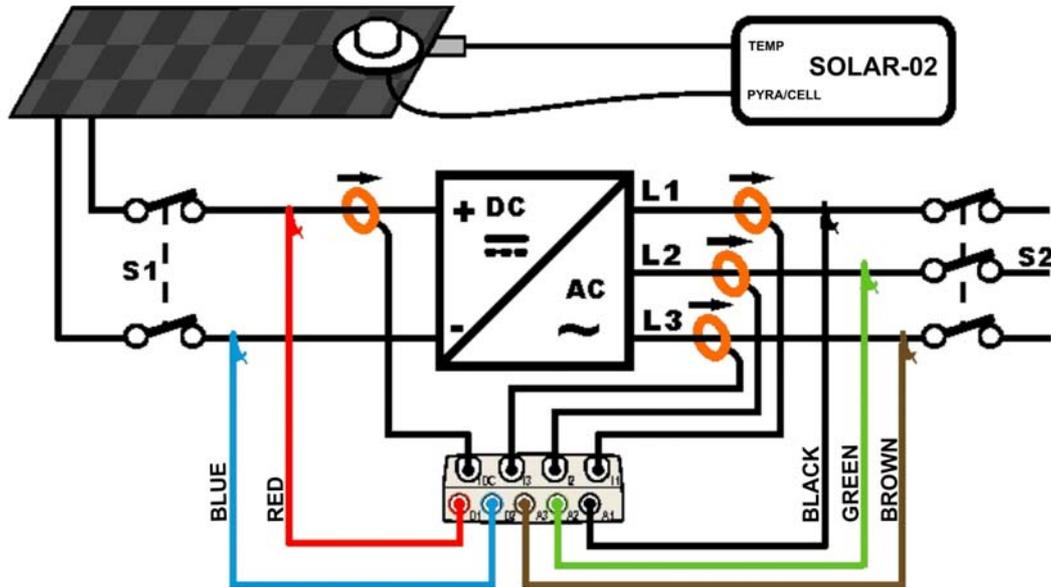

Fig. 245: Connecting the instrument to a PV-3 system with SOLAR-02
3. Connect inputs **D1** and **D2** to the positive and negative string output pole respectively. Connect inputs **A1**, **A2** and **A3** to the phase conductors, respecting the colors as shown in Fig. 245
4. Connect the DC current clamp to the positive string output conductor **by respecting the direction of the arrow** on the clamp itself as indicated in Fig. 245. **Check the status of internal batteries of the DC clamp after the connection to the installation**
5. Connect the AC clamps to the Phase L1, L2, L3 conductors **by respecting the direction of the arrow** on the clamps as indicated in Fig. 245. Connect the output of the clamps to the **I1**, **I2**, **I3** input of the instrument respectively